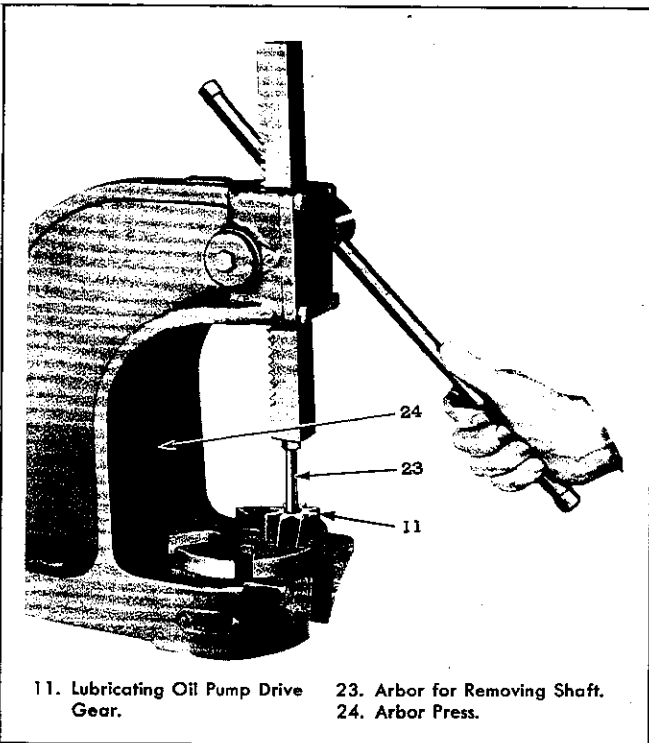

Fig. 10—Removing Lubricating Oil Pump Drive Gear from Shaft.
5. If gear is to be removed from shaft, place gear and shaft assembly on bed of arbor press with long end of shaft through slot in bed plate and face of gear resting on plate. With arbor on gear end of shaft and under ram of press, press shaft from gear. (See Fig. 10.)